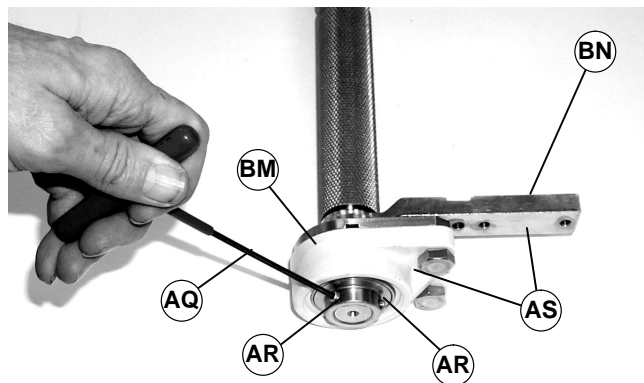

Figure 37
6. Using a 3mm hex key wrench (AQ of Figure 37), loosen two set screws (AR) on bearing and head plate assembly (AS).
NOTE: If bearings (BM of Figure 37) require removal from head plates (BN), see "Bearing Removal" on page 16.
6. Using a 3mm hex key wrench (AQ of Figure 37), tighten two set screws (AR) on each bearing and head plate assembly (AS).